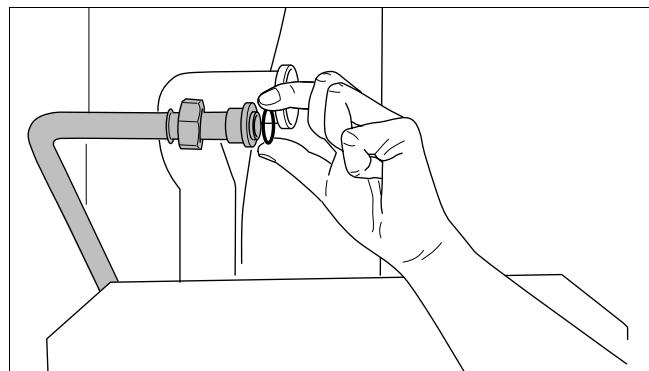

fig. 14 *Installing a new seal on the gas pipe*
- Remove the seal from the gas pipe and install a new seal (fig. 14).